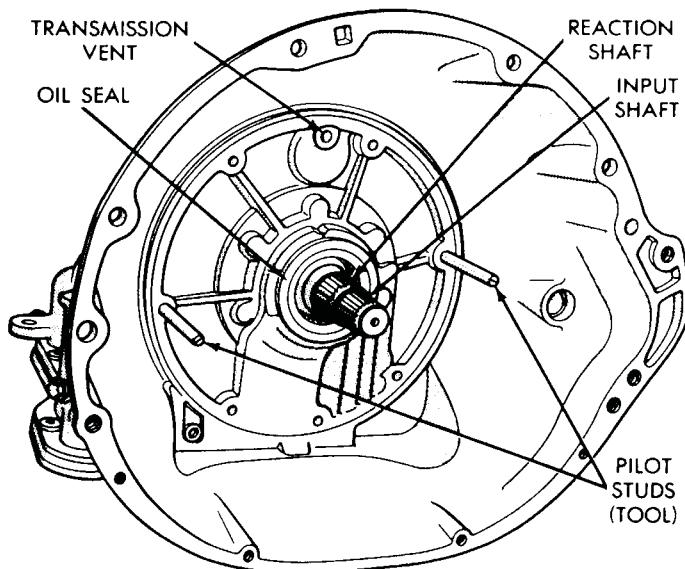

Fig. 31—Installing Oil Pump
(1) Screw two pilot studs Tool C-3288-B in pump opening in the case (Fig. 31). Install a new gasket over the pilot studs.